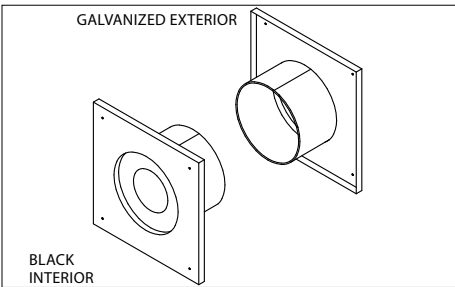

Figure 5
1. The black portion of the Wall Thimble is to be attached to the interior wall, and the galvanized portion is to be attached to the exterior wall. The Wall Thimble adjusts to fit walls from 3"-8" thick (**Figure 5**).